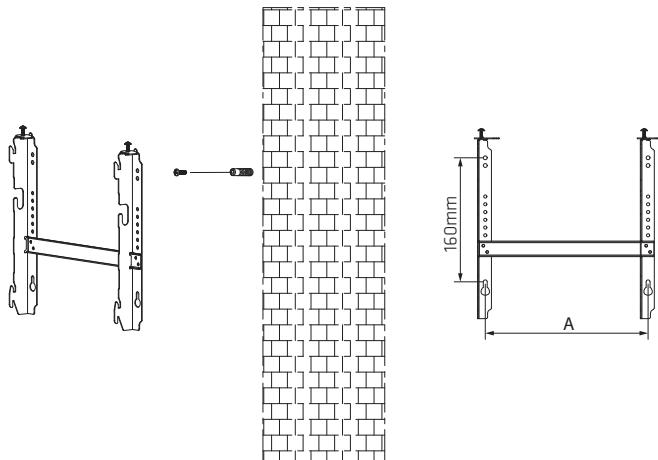

Fig.2
2. Verify that the bracket is perfectly horizontal with a spirit level and mark the location of holes on the wall. Drill holes in the wall using a drill adapted to the diameter of pegs. Insert the pegs into the holes, then screw the wall mount bracket securely onto the wall (Fig 2).